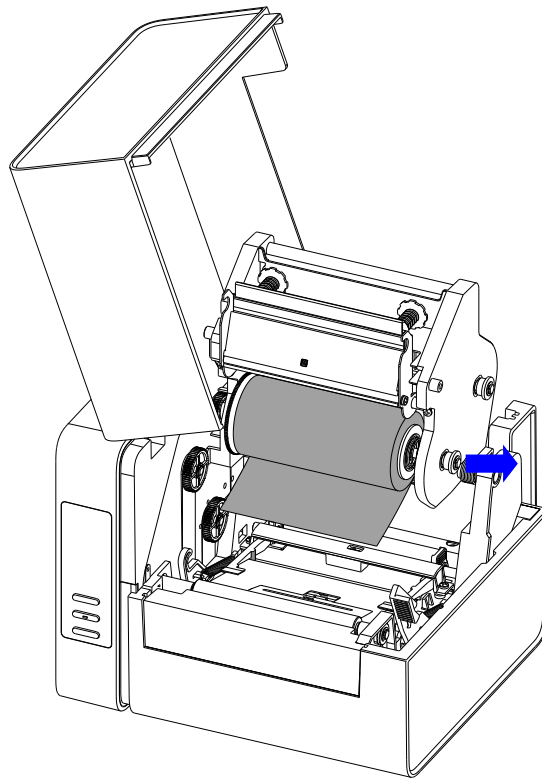

Figure 2-9 Load Ribbon Roll
5. Pull the Release Knob of the Ribbon Supply compartment outwards and place the ribbon roll in the Ribbon Supply compartment, aligning its ends with the Left Mount and the Right Mount which the Release Knob is attached to. Release the knob to secure the ribbon roll in the Ribbon Supply compartment, see Figure 2-9.